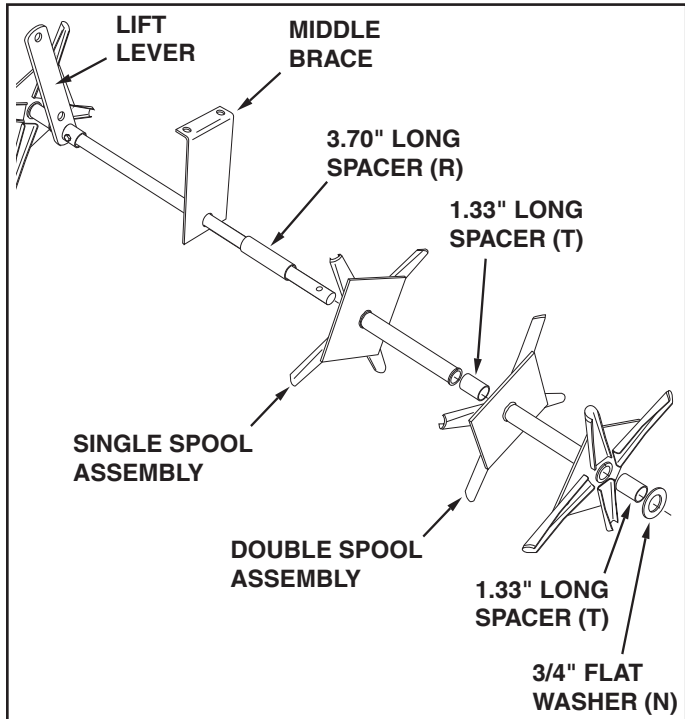

FIGURE 4
4. Assemble the middle brace onto the **long end** of the shaft with the bent end of the brace facing the lift lever. Next assemble a 3.70" long spacer (R), a single spool assembly, a 1.33" long spacer (T), a double spool assembly, a 1.33" long spacer (T) and a 3/4" flat washer (N) onto the **long end** of the shaft. See figure 4.